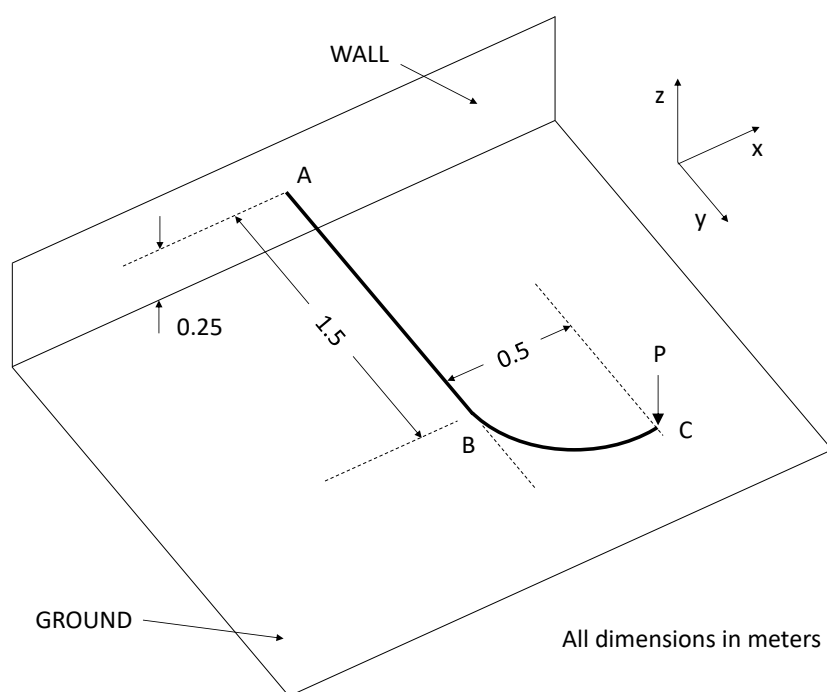

Figure Q6
6. Figure Q6 shows a cantilevered bracket consisting of a straight section, AB, connected to a quarter-circular curved section, BC, and is made from a steel bar which is circular in cross section with a diameter, ϕ of 28mm, a Young's Modulus, E of 210GPa and a Shear Modulus, G of 77GPa. The bracket initially lies on the x-y plane and is built in to the wall at position A at a height of 0.25m above ground level as shown in Figure Q6. A point load, P of 500N is applied perpendicularly to the x-y plane at the free tip of the bracket (position C).